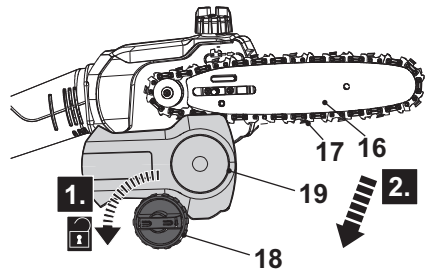

Fig. 4
1. Place the product on a suitable flat surface with the chain saw cover (19) facing forwards.
2. Unscrew the locking wheel (18) anticlockwise and then remove it together with the chain saw cover (19), the guide bar (16) and the saw chain (17) (Fig. 4).
3. Use the new guide bar (16) and saw chain (17) with same types described in the “technical specification”.